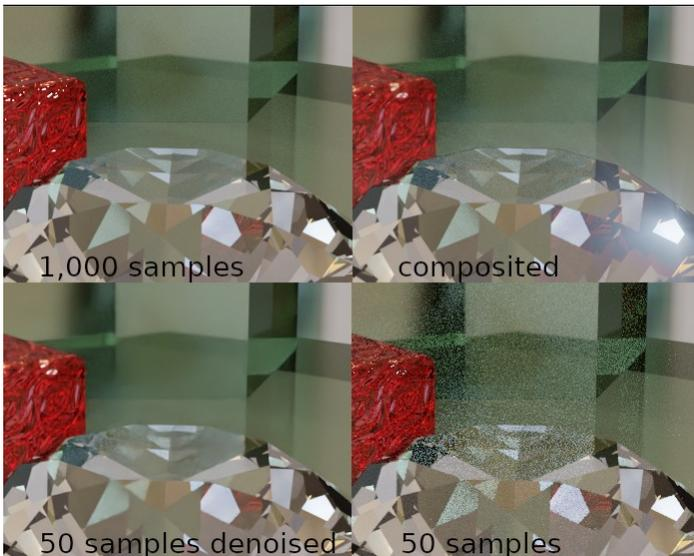

Figure 13-8 Comparison of different sample numbers and effect of denoising.
a large diamond. The problem with transparent and reflective objects is that they can produce a lot of noise when rendered, which requires a high number of samples to resolve. The denoiser in Blender version 3.0 onward is amazingly good, as you will appreciate if you look at Figure 13-8, but in some circumstances it can blur details, such as the highlights on the top of the red cut-glass block. In this exercise the foreground will be rendered with a high number of samples and the background will use a low number of samples and denoised in the compositor, then a small amount of the noisy render will be mixed back in.
1. Start off by adding a few objects to the scene. I used the add-on; extra objects, which was still enabled from Chapter 12, and has a diamond mesh option, but a normal ico sphere would be fine. Add a cube with beveled edges and some five sided cylinders as table and background objects. Change all the materials to Glass BSDF with low roughness and light tint, for the cube use a procedural texture and bump node to create a slight normal pattern. Finally in the world settings add an environment texture. You can see in Figure 13-8 a detail from the scene I set up, but the actual layout isn't too critical.